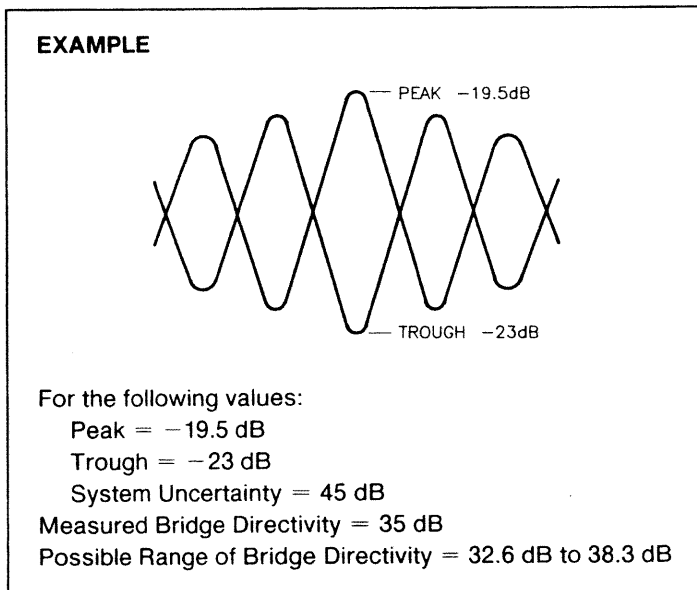
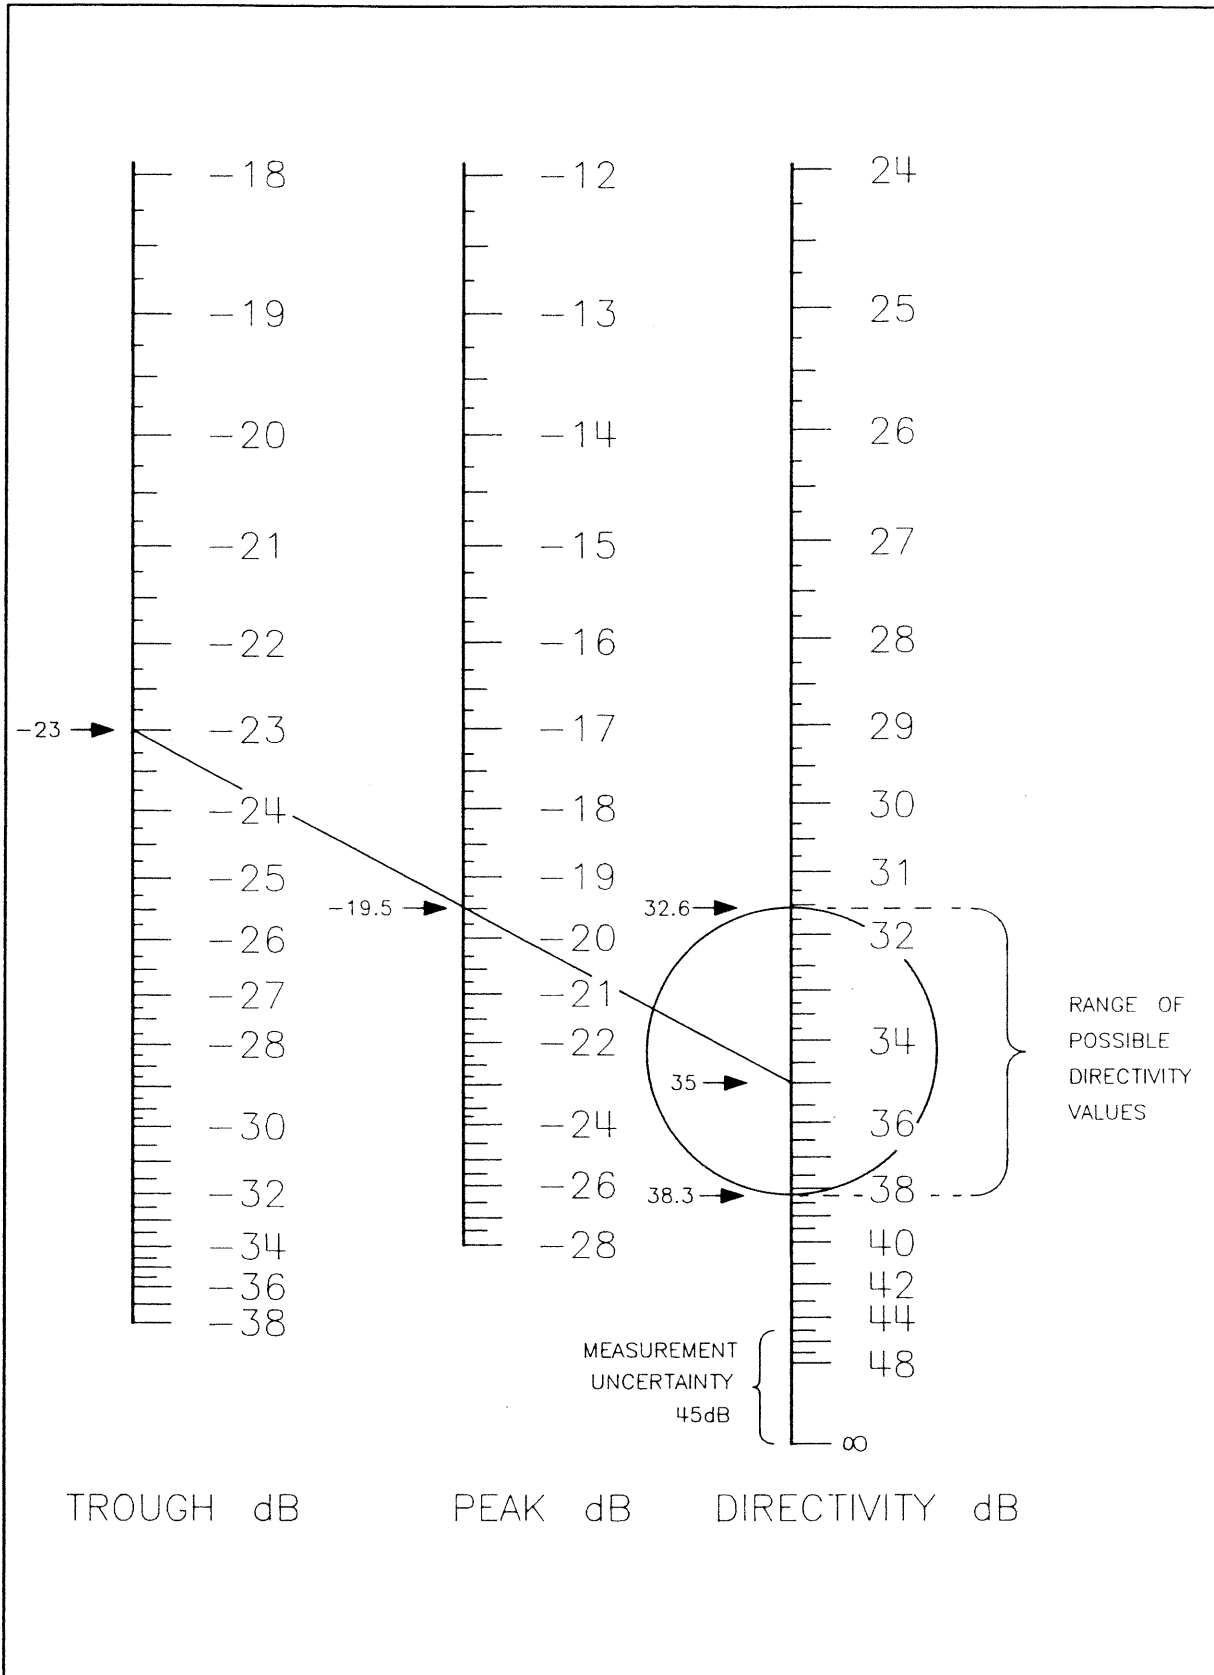

Figure 4-3. Peak and Trough of Envelope
Figure 4-5A. Directivity Nomogram Example
7. Use the analyzer front panel knob to position the cursor to the peak value. Figure 4-3 shows examples of peak and trough values in an envelope. These example values will be used later in the example nomogram. Press **[AVG] [AVG ON]**. Allow the trace to settle. Record the cursor value as **Peak Value** on the *Performance Test Record*.
3. Without moving the straight edge, read the calculated directivity as the value where the straight edge intersects the directivity scale. Figure 4-5A shows an example using the values from Figure 4-3.